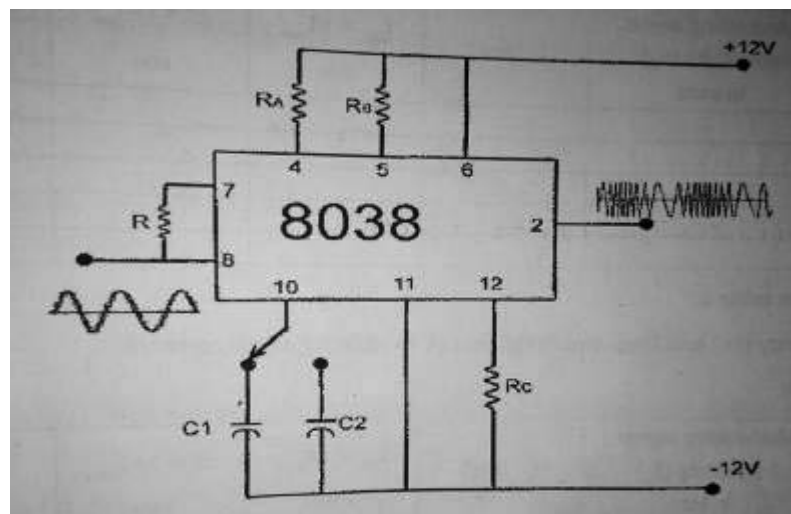
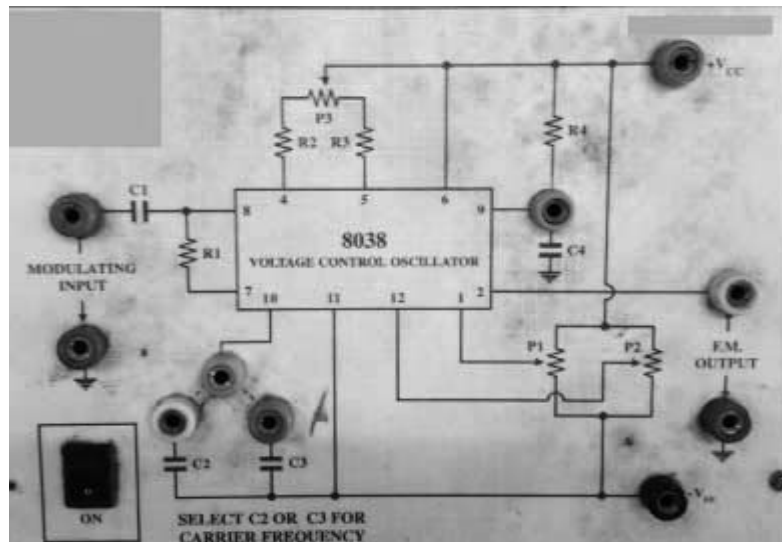
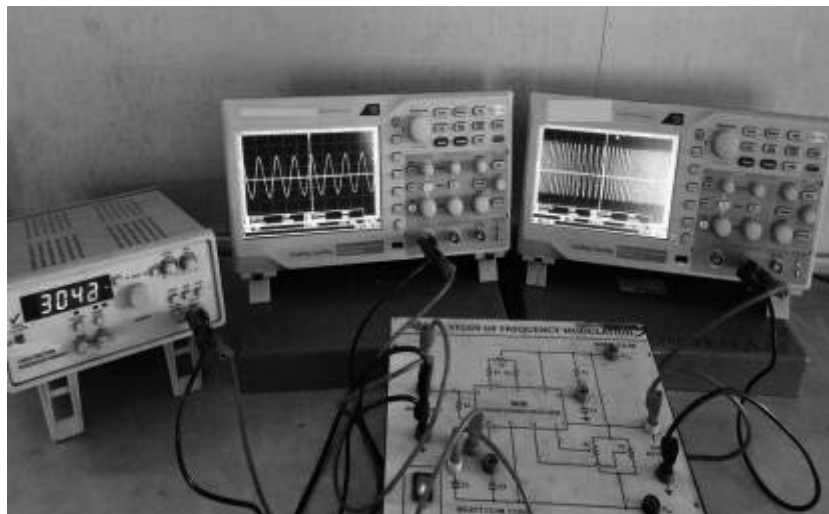

Fig 6.3: FM modulation circuit diagram using 8038
Fig 6.4: FM modulation trainer kit
Fig 6.5: FM generation using VCO 8038
(a) Sample circuit diagram (figure 6.3)/Experimental setup (figure 6.4 and figure 6.5)
1. Make connections as shown in figure 6.5.
5. Apply modulating signal from function generator as input to trainer kit as well as to the first channel of CRO as shown in fig 6.5.
6. Connect CRO at FM output terminal second channel of CRO/DSO as shown in Fig 6.5.